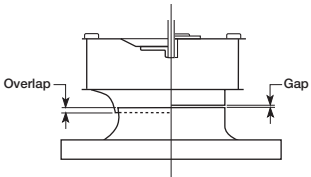

Figure 3
- 11. Rotate the wheel by hand to ensure that it does not rub and rotates freely. Wheel position is preset and the unit is test run at the factory. Movement may occur during shipment and realignment may be necessary. Refer to Figure 3 and chart for proper overlap dimensions.